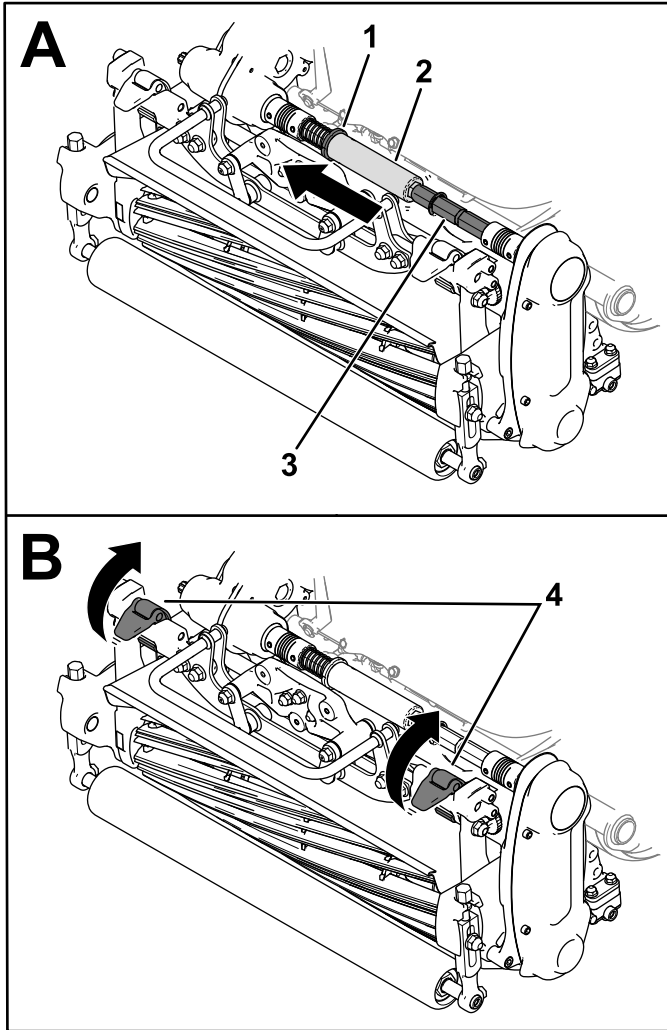

Figure 28
3. Move the collar (Figure 28) into the transmission-shaft groove.
4. Slide the hex tube off of the cutting-unit coupler shaft (Figure 28).
5. Move the suspension latches up to release the cutting unit from the machine (Figure 28).